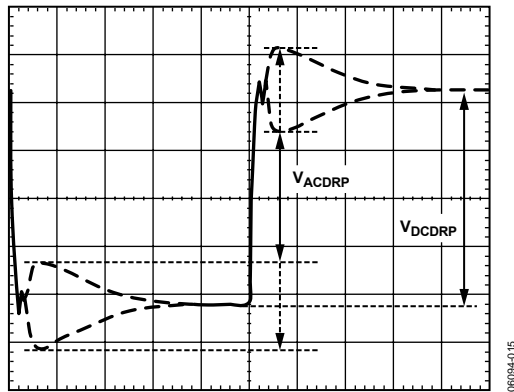

Figure 17. AC Load Line Waveform
14. Measure the output waveform (use dc offset on scope to see the waveform). Try to use a vertical scale of 100 mV/div or finer. This waveform should look similar to Figure 17.
15. Use the horizontal cursors to measure V_{ACDRP} and V_{DCDRP} as shown in Figure 17. Do not measure the undershoot or overshoot that happens immediately after this step.